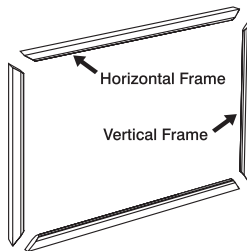

Fig 1
1. Lay each section of the frames on a tidy, flat surface. (Fig. 1)